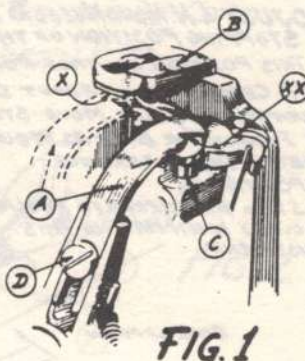

FIG. 1
THE TRIMMING KNIFE (A) FIG.1 SHOULD BE SET SO IT WILL CLEAR THE UNDER SIDE OF THROAT PLATE (B) AT (X), AND TOP OF RIGHT HAND SPREADER STOP (C) AT (XX). TO OBTAIN THIS SETTING, LOOSEN SCREW (D) FIG.1 AND MOVE TRIMMING KNIFE (A) UP OR DOWN TO SUIT. TIGHTEN SCREW SECURELY.